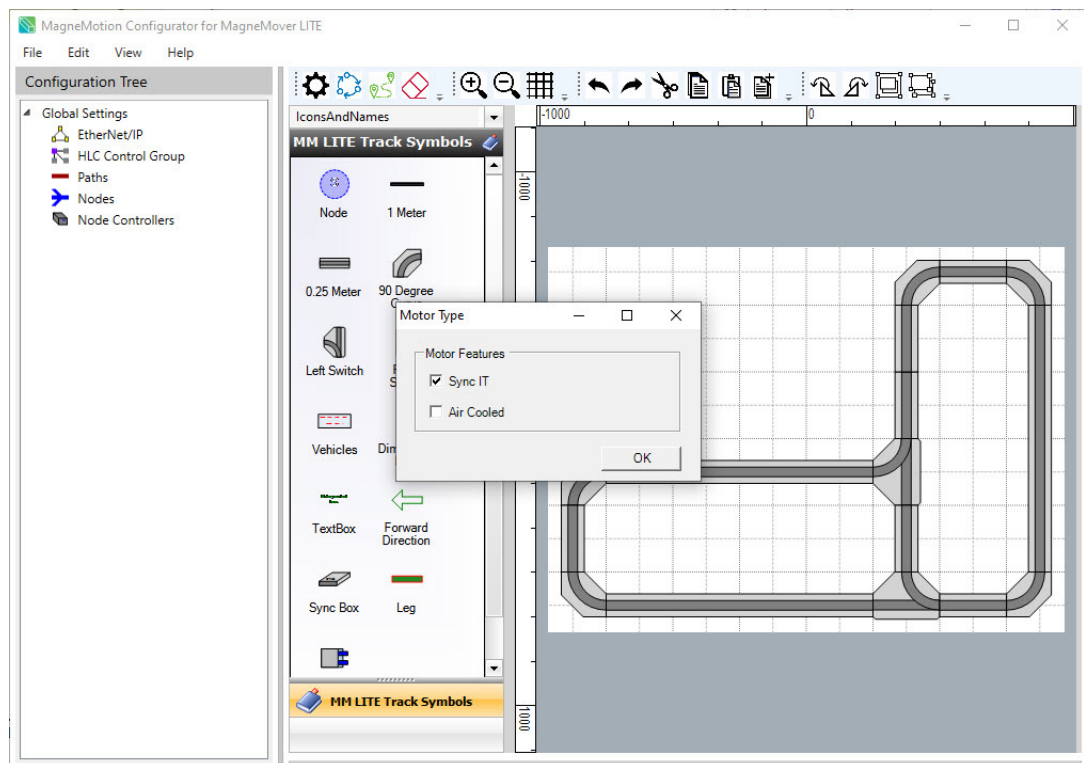

Figure 3-8: Define Motors Using the LSM Sync Option
*The **Motor Type** dialog is displayed, see Figure 3-8.*